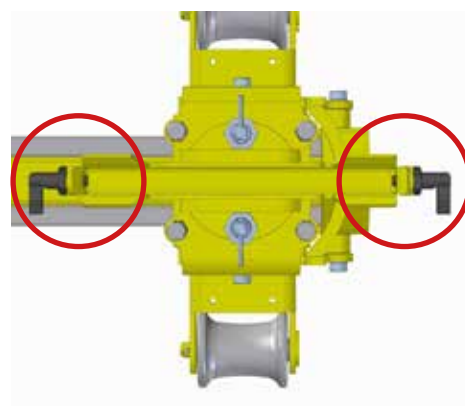

Figure 80.
**Lifting handles see "Figure 80."**